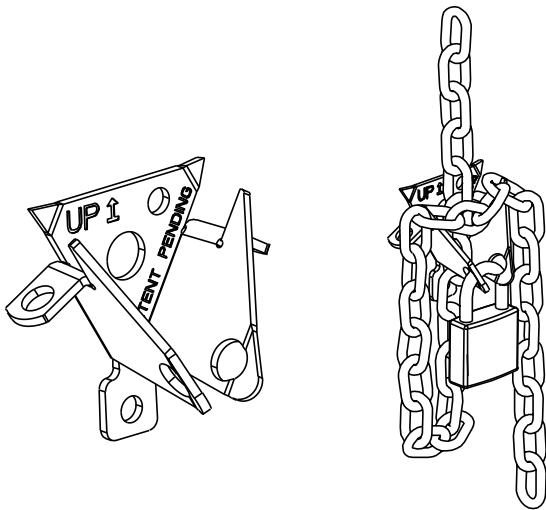

Fig. 12
5. Loop chain around keeper as shown. Fig. 12. Optional Padlock not provided.